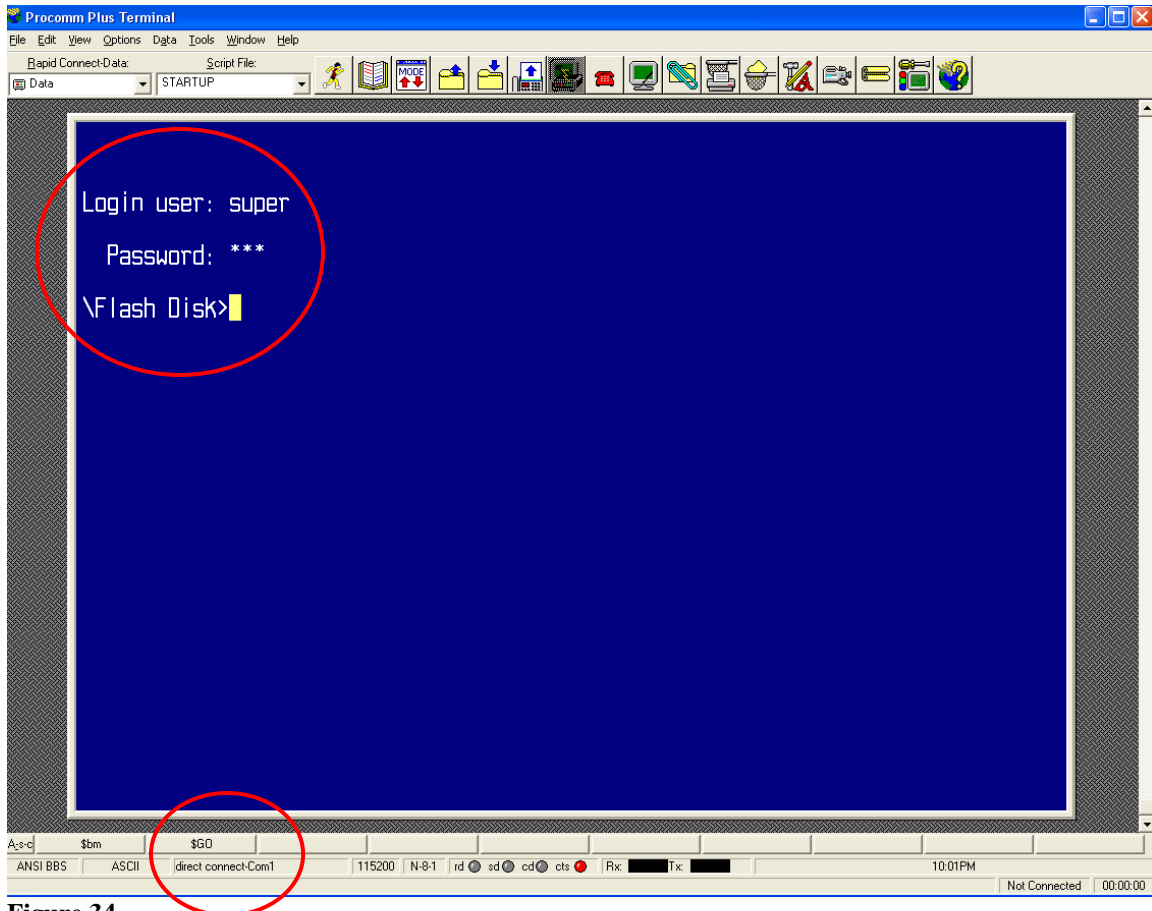

Figure 34
2. At the Login prompt enter the username and password as shown in fig 34.